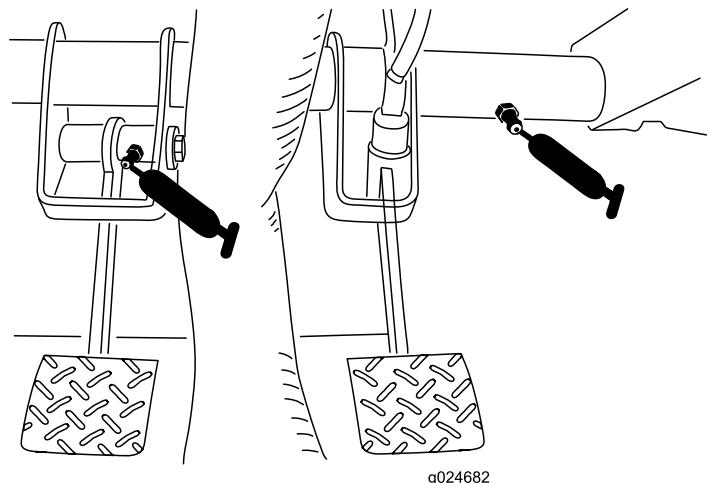

Figura 30
- **Embrague (1);** consulte Figura 30
- **Freno (1);** consulte Figura 30